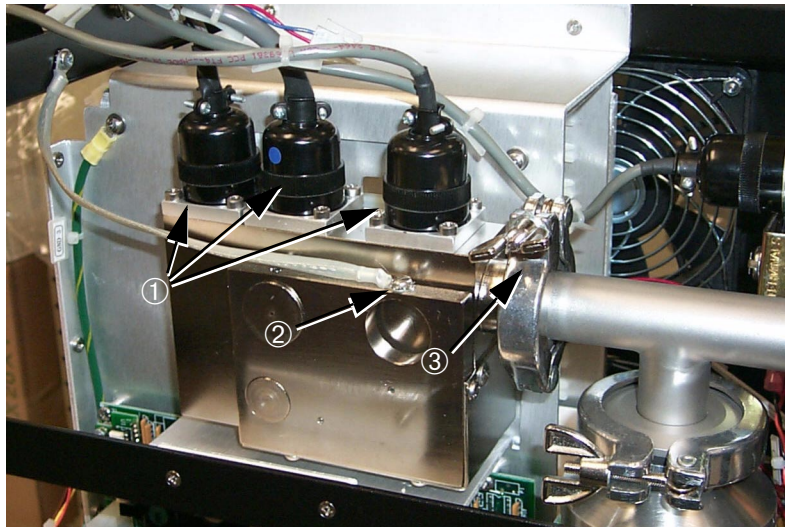

Figure 5-2 Front View of the Spectrometer Tube Assembly
2. Lean the top of the front panel forward ③ to allow access to the spectrometer tube assembly. Be careful not to place tension on the front panel display PCB harness.
3. The spectrometer tube is located in the center front of the 979C just behind the front panel (Figure 5-2).
In addition to the three connectors on the top of the unit, indicated by ① in Figure 5-2, and the ground cable ②, the spectrometer tube is attached by a KF-25 (ISO NW-25) quick clamp ③ and a wing nut located below the tube (not shown in this view).